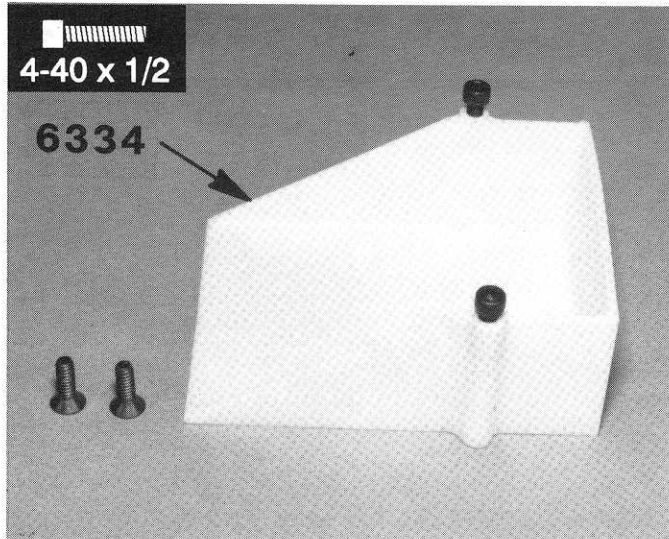

Fig. 135
□ **Figs. 135 & 136** From Bag 7-7 take one of the #6334 battery cup out and screw the two 4/40 x 1/2" SHCS screws in, as shown. One screw will have a very small hole in the head. The screws DO NOT go all the way down. There must be enough room between the screw head and battery cup for the #6335 battery strap to mount and swing freely.